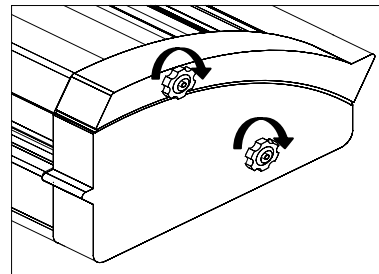

Figure 5
Film Tension Adjustment (6) - Allows the operator to increase or decrease film web tension. To increase the tension turn the knob clockwise and to decrease tension turn the knob counterclockwise. (Fig. 5)